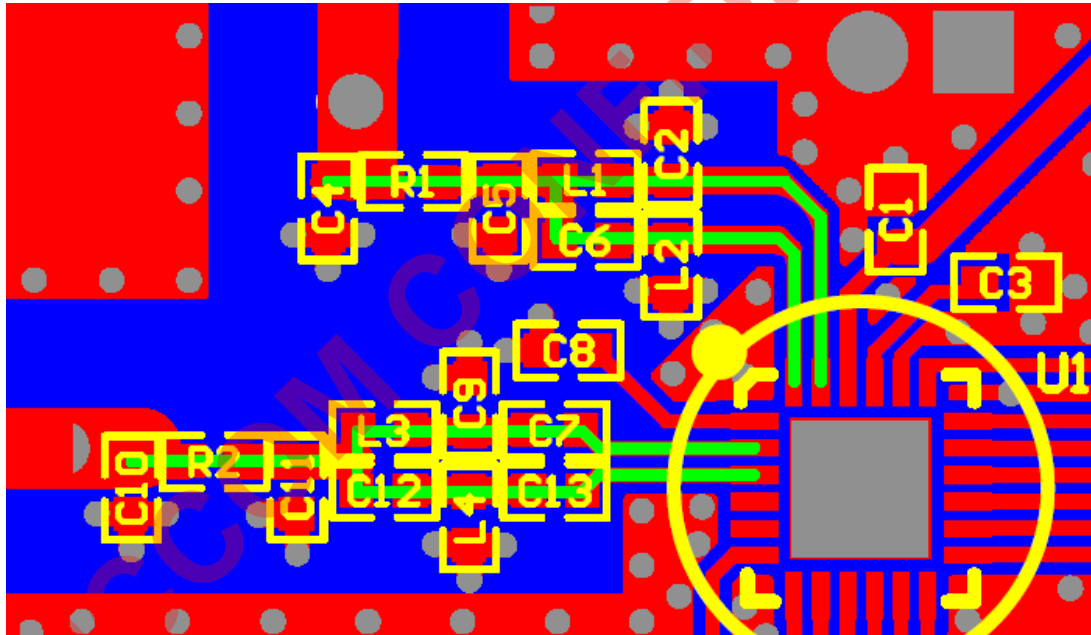

Fig. 2.2a RF matching trace (green)
2. The impedance of RF path should be as close to 50 ohm as possible, and the RF trace should also be as short as possible. The ground plane below all RF traces must be intact and not fragmentary. The matching network (TX : C7, C13, C9, L4, C12, L3, C11, R2, C10 ; RX : C2, L2, C6, L1, C5, R1, C7) should be placed close to A5130 IC because the matching network affects RF performance (power, and current) heavily. Therefore, we strongly recommend user to follow components placement and layout where shown by green traces in Fig. 2.2a. without any change. (P.S: The Lumped-element Balun is consists of C2, L2, C6, L1, C9, L4, C12, L3.)